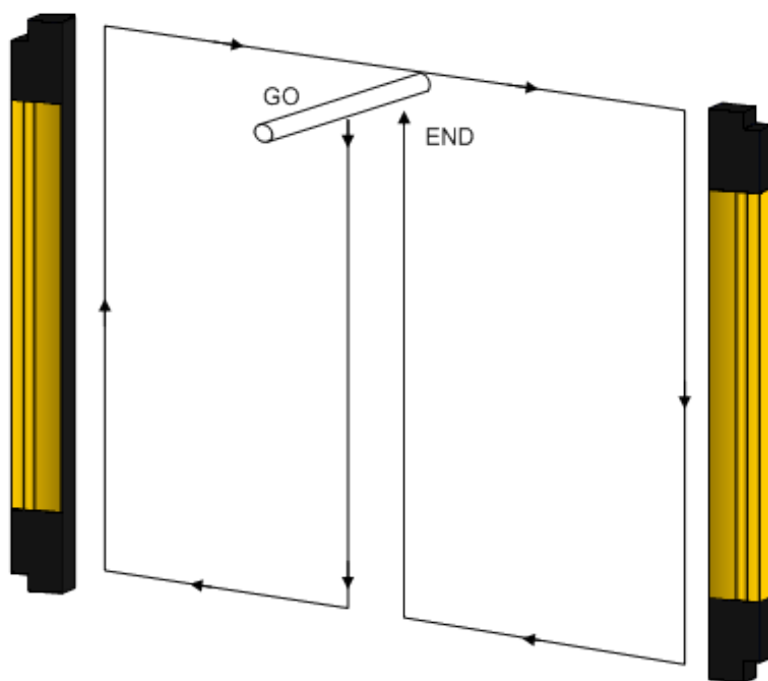

Fig. 16 – Path of test object
- The beams are interrupted across the whole area of the protected field using a test object (test rod) (TP-14 or TP-30) with an appropriate resolution, in accordance with the diagram in Fig. 16.